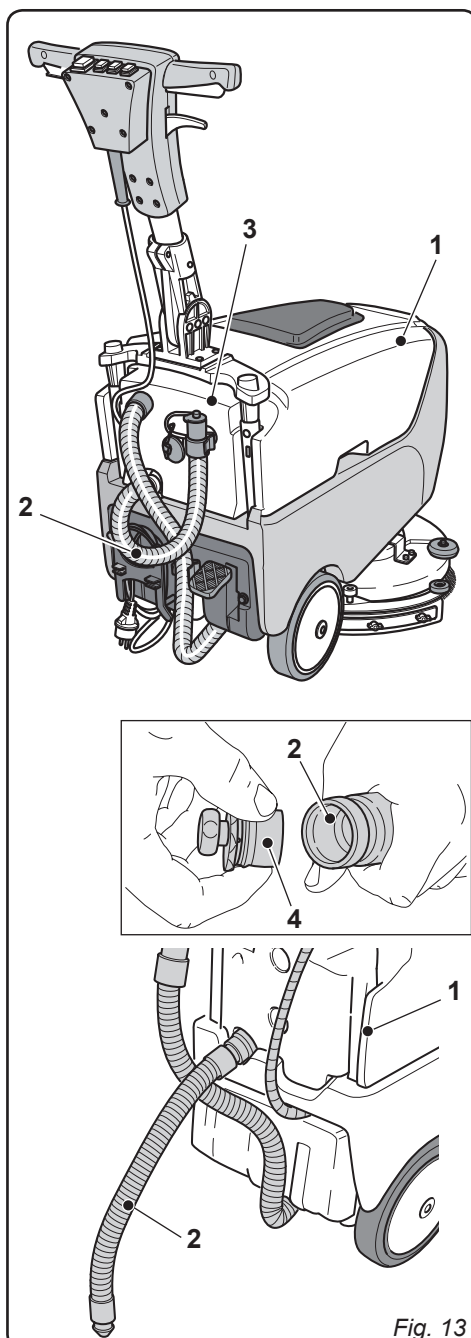

Fig. 13
10.1 DRAINING THE RECOVERY WATER (Fig. 13)